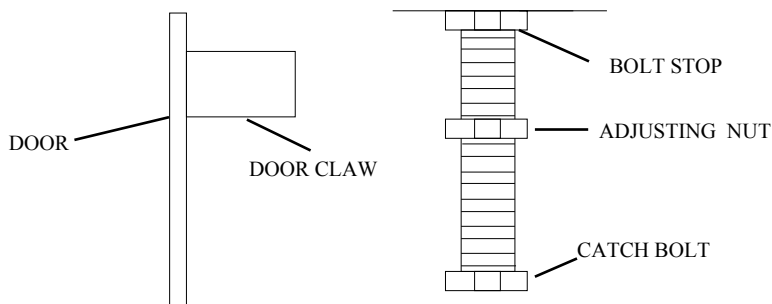

FIGURE 10 - CATCH BOLT AND DOOR CLAW ORIENTATION
10. Install door catch bolt (M8 x 1.25 – 55mm with two M8 hex nuts) into threaded hole on stove body (See Figure 10, page 8). Use an adjustable wrench or a 12mm socket. The catch bolt has two hex nuts attached to it. The top nut is a bolt stop and the bottom nut is for door leveling adjustment.
15. Fasten back panel to stove with six (6) M6 x 1—20mm bolts and washers. Make sure product identification label is located on the outside in lower left hand corner.